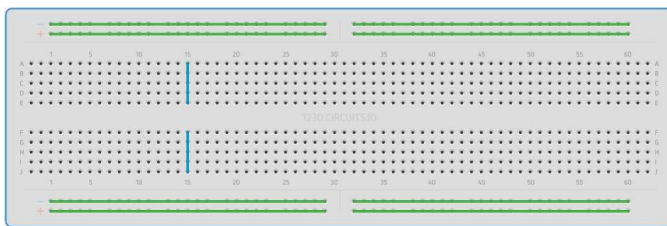

Fig. 1.1: Breadboard
**Problem 1.1.** Plug the display to the breadboard shown in Fig. 1.1. The breadboard can be divided into 5 segments. In each of the green segments, the pins are internally connected so as to have the same voltage. Similarly, in the central segments, the pins in each column are internally connected in the same fashion as the blue columns.